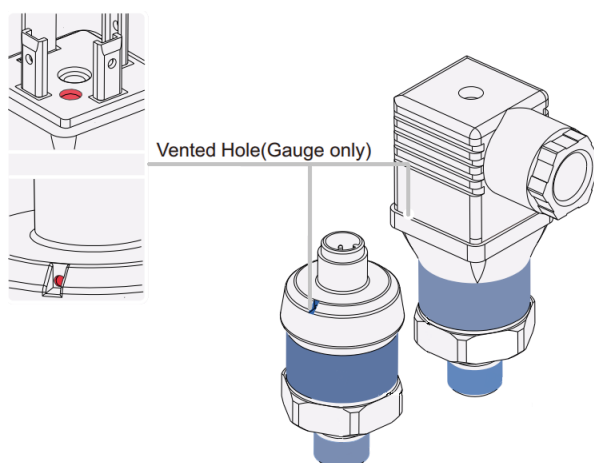

Fig. 5 – Vent hole position
- Note: For Gauge sensors, any vent hole / vent tube in the centre of the cable must not be blocked or become contaminated with water, and must be allowed to vent to the atmosphere at all times. This is to protect the product and ensure the accuracy of the output measurement (See figure 5).